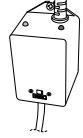

FIGURE 8
20. Once power is activated you can check the ballast (12), Figure 8, to see if the ClearRay Active Oxygen® System is functioning; it has two LED indicator lights the green indicating incoming power flow and the red indicating the system is properly working.